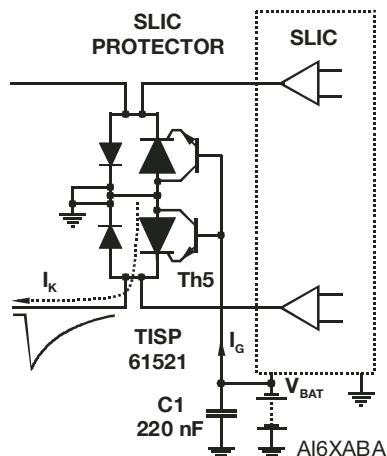
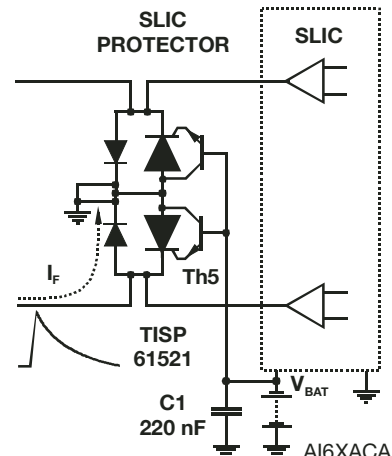
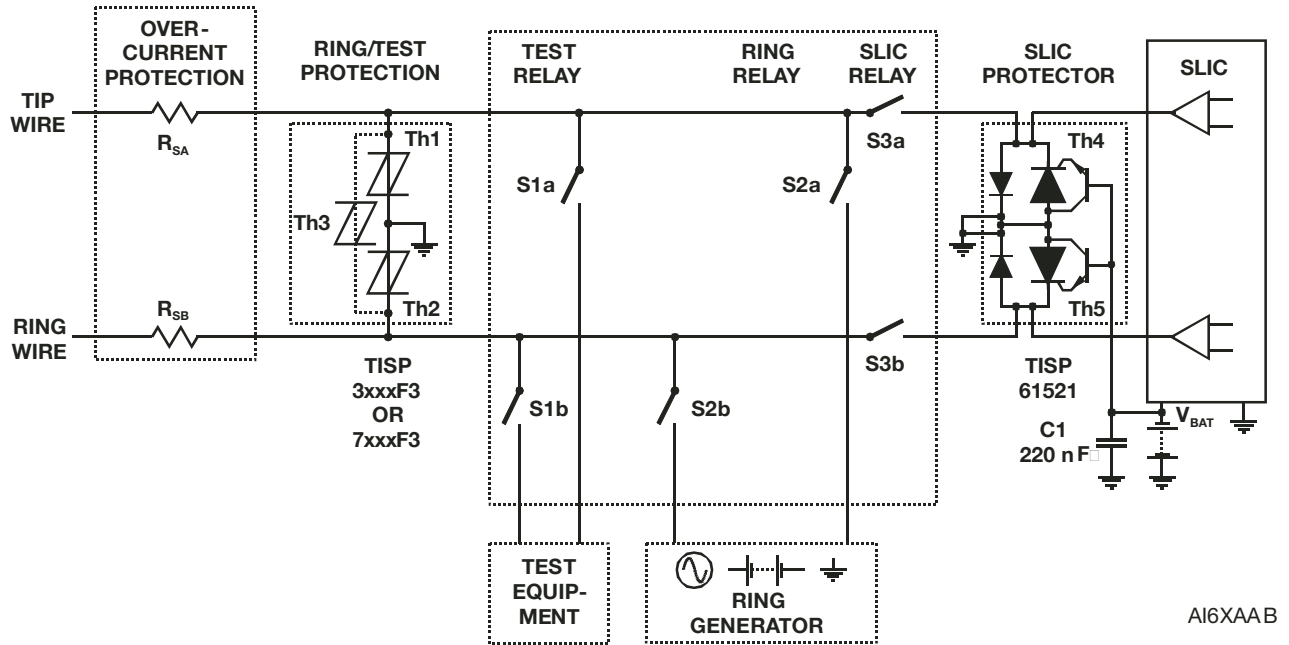

Figure 3. Negative Overvoltage Condition
Figure 4. Positive Overvoltage Condition
Figure 6. Typical Application Circuit
SLICs have become more sophisticated. To minimize power consumption, some designs automatically adjust the driver supply voltage to a value that is just sufficient to drive the required line current. For short lines, the supply voltage would be set low, but for long lines, a higher supply voltage would be generated to drive sufficient line current. The optimum protection for this type of SLIC would be given by a protection voltage which tracks the SLIC supply voltage. This can be achieved by connecting the protection thyristor gate to the SLIC  $V_{BATH}$  supply, Figure 3. This gated (programmable) protection arrangement minimizes the voltage stress on the SLIC, no matter what value of supply voltage.
Figure 3 and Figure 4 show how the TISP61521 limits negative and positive overvoltages. Positive overvoltages (Figure 4) are clipped by the antiparallel diode of Th5 and the resulting current is diverted to ground. Negative overvoltages (Figure 3) are initially clipped close to the SLIC negative supply rail value ( $V_{BATH}$ ). If sufficient current is available from the overvoltage, then Th5 will switch into a low voltage on-state condition. As the overvoltage subsides, the high holding current of Th5 prevents d.c. latchup. The protection voltage will be the sum of the gate supply ( $V_{BATH}$ ) and the peak gate-cathode voltage ( $V_{GK(BO)}$ ). The protection voltage will be increased if there is a long connection between the gate decoupling capacitor, C1, and the gate terminal. During the initial rise of a fast impulse, the gate current ( $I_G$ ) is the same as the cathode current ( $I_K$ ). Rates of  $70 A/\mu s$  can cause inductive voltages of 0.7 V in 2.5 cm of printed wiring track. To minimize this inductive voltage increase of protection voltage, the length of the capacitor to gate terminal tracking should be minimized. Inductive voltages in the protector cathode wiring will also increase the protection voltage. These voltages can be minimized by routing the SLIC connection through the protector as shown in Figure 6.
Figure 6 shows a typical TISP61521 SLIC card protection circuit. The incoming line conductors, Ring (R) and Tip (T), connect to the relay matrix via the series overcurrent protection. Fusible resistors, fuses and positive temperature coefficient (PTC) resistors can be used for overcurrent protection. Resistors will reduce the prospective current from the surge generator for both the TISP61521 and the ring/test protector. The TISP7xxxF3 protector has the same protection voltage for any terminal pair. This protector is used when the ring generator configuration may be ground or battery-backed. For dedicated ground-backed ringing generators, the TISP3xxxF3 gives better protection as its inter-conductor protection voltage is twice the conductor to ground value.